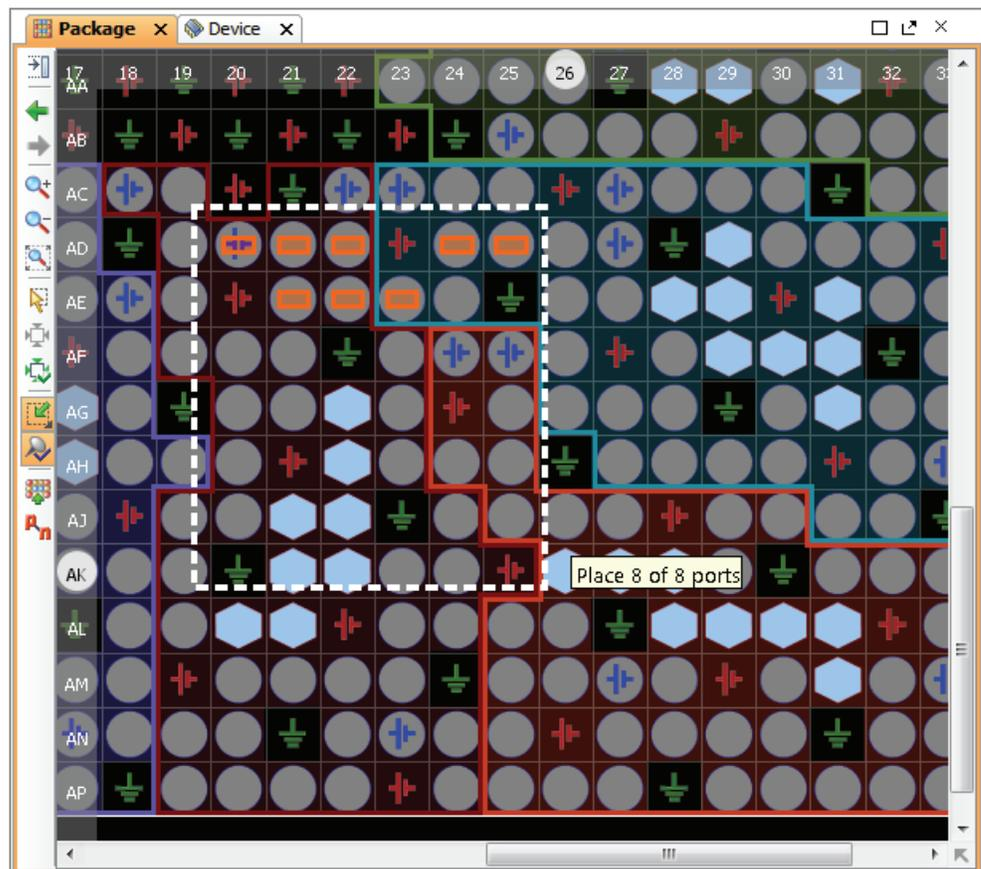

Figure 8-23: Placing I/O Ports in an Area
4. In either the Package view or the Device view, draw a rectangle to define the assignment area, as shown in Figure 8-23.